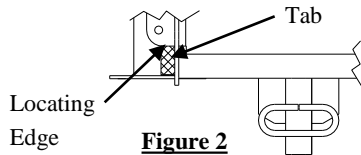
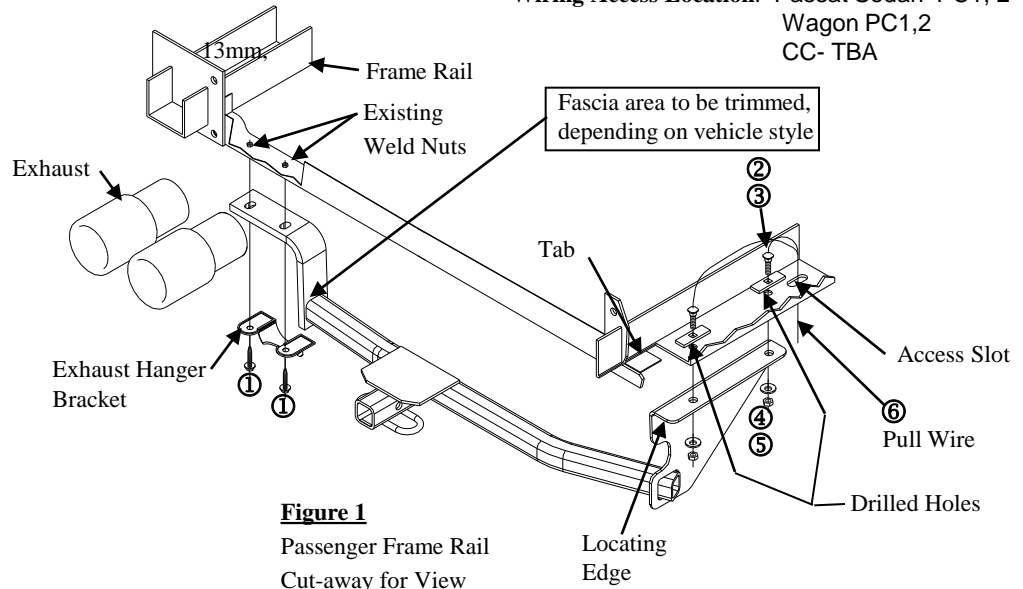

Figure 2
Figure 1
①	Qty. (2)	Bolt M8 X 1.25 X 55 CL 9.8	④	Qty. (2)	Conical Washer 7/16"
②	Qty. (2)	Bolt, Carriage 7/16-14 X 1.50 GR 5	⑤	Qty. (2)	Nut 7/16-14
③	Qty. (2)	Block ¼ X 1 X 3	⑥	Qty. (1)	Pull wire
- Remove plastic fascia covering the passenger side frame rail of the vehicle by removing the (5) Torx screws. Return plastic fascia covering and screws to vehicle owner. Remove the two plastic fascia nuts from the fascia tabs (Do not discard).
- Remove the (2) bolts from the exhaust hanger bracket as shown in **Figure 1** to lower the exhaust. Return bolts to owner.
- Slide the driver's side bracket above the exhaust bracket. Note: Sandwiching the hitch bracket between frame and exhaust hanger bracket. Using the (2) M8 bolts loosely tighten the fasteners. Note: Rotate the hitch for ease of installation.
- Align the passenger bracket with the locating edge and the tab see **Figure 2** (check hitch for alignment perpendicular of the vehicle making sure the bracket is flat against the frame rail). The passenger side bracket may need to be pushed flat against the frame rail. Then using the hitch as a template mark the hole locations. Drill the 1/2" holes.